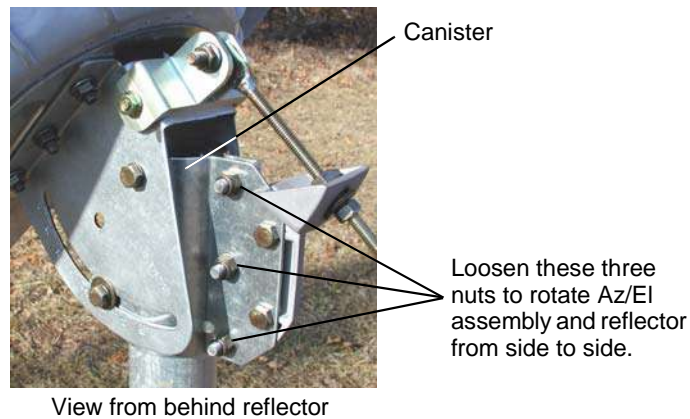

Figure 52: Azimuth adjustments on the antenna
- a. Fully loosen the three canister nuts shown in Figure 52.